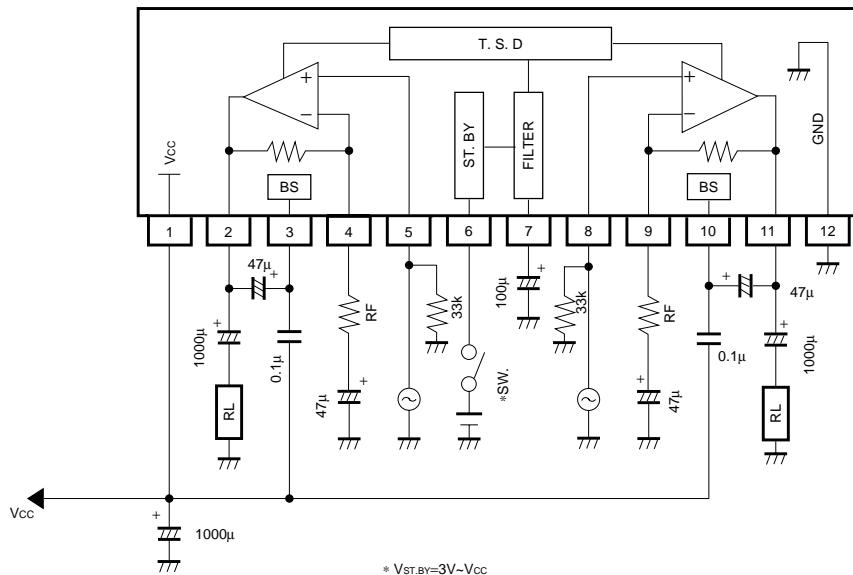

Fig.1
#### (10) Standard values for the DC voltages on each pin (Vcc=12V, Ta=25°C, measurement circuit : Fig.1)